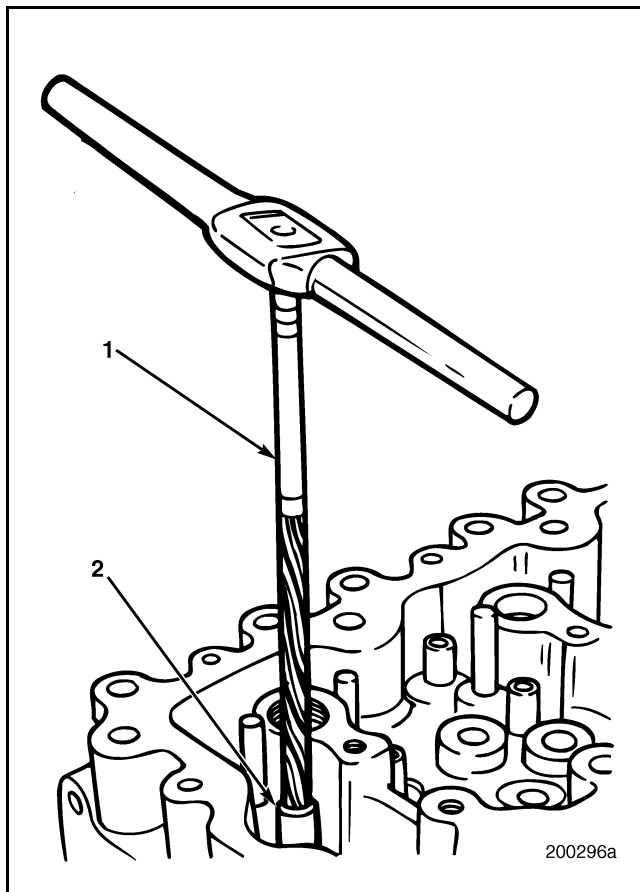

Figure 259 — Reaming Valve Guide
- Using valve guide reamer J 37481, ream the valve guide as shown in Figure 259 to the specified dimension.